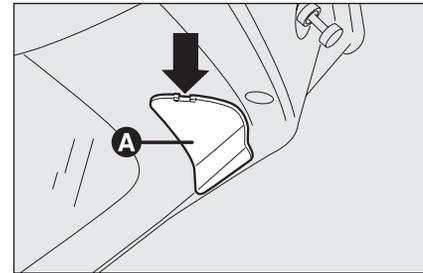

fig. 31
- remove cover **A**-fig. 31 working with a screwdriver in the point indicated by the arrow;
- remove the cover **A-fig. 31** working in the point shown by the arrow;
- close cover **A-fig. 31**.